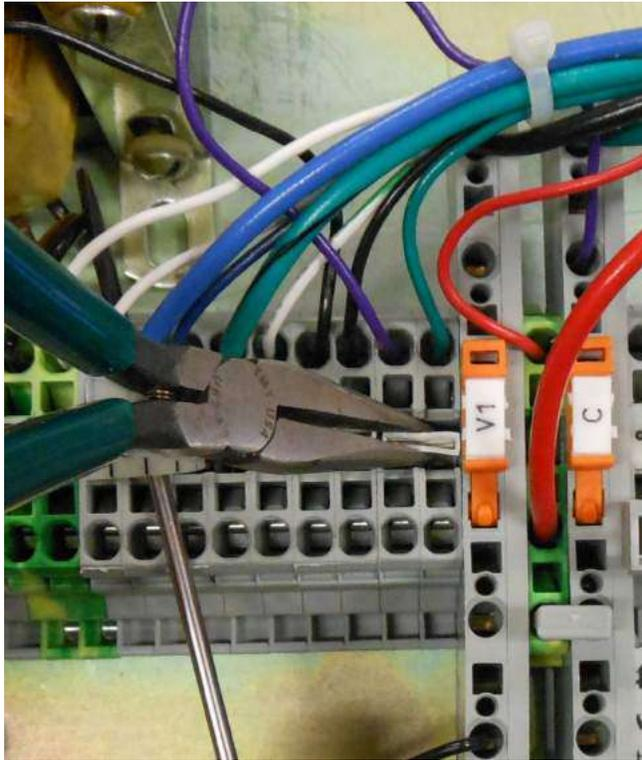
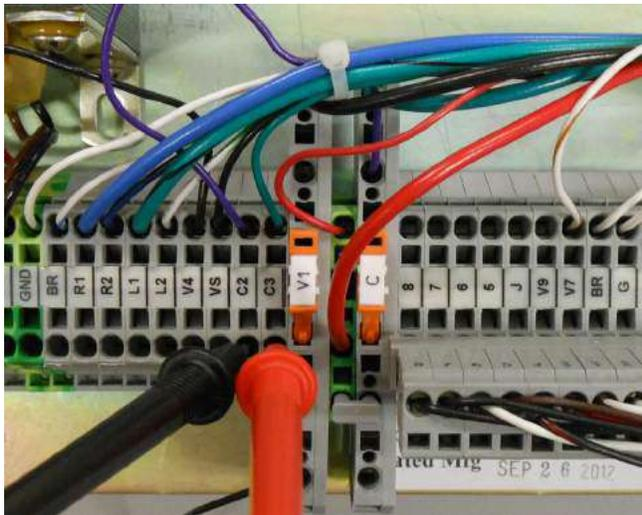

Figure 24. Removing jumper between C2 and C3
Figure 25. Milli-ammeter connection points
- Remove the jumper from between the C2 and C3 terminals to the left of the V1 switch on the TB3 terminal board, on the back panel. See Figure 24. Place a milli-ampere meter between these terminals. See Figure 25.